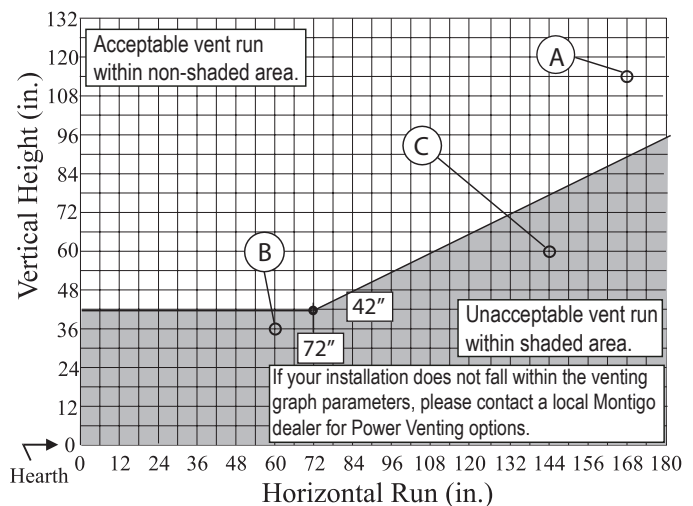

**Figure 12.** H\*38DF\* (excluding H38DFN) Top Vent Venting Graph for wall mounted terminations.
- Once the proposed venting layout has been determined refer to Figure 12, 12a, or 15 to ensure the layout is acceptable.
- Venting runs *must* fall within the limits set by the venting graph, see Figure 12 or 12a.
Measure the vertical height from the fireplace hearth to the centre of the termination and the horizontal run from the fireplace flue collar to the wall flange of the termination. Plot on the Venting Graph Figure 12 with an 'X'.
**Figure 12a.** Top Vented, wall mounted installation with one 90° bend. The vent run must comply with Venting Graph for Top vent, wall mounted terminations, Figure 12 or .